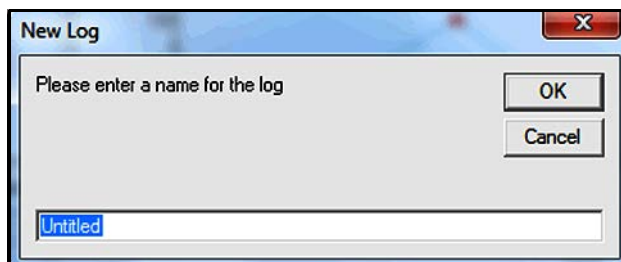

Figure 67: Log Name Dialog Box
- f. Enter a name for the log file in the dialog box shown in *Figure 67* below (“Untitled” is used here). Click on the **[OK]** button.